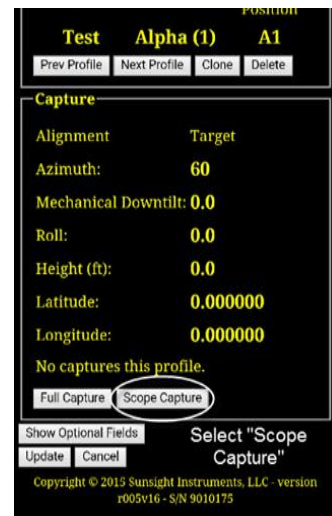

Figure 4-2
- c. Once the correct antenna has been chosen, click **Scope Capture**. See Figure 4-2.